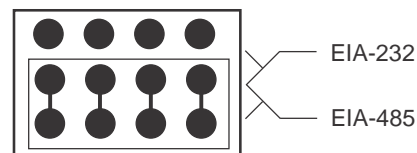

Figure 12. Port 2 Configuration Jumper Settings
4. Plug EIA-485/232 configuration jumper to EIA-485 position as shown in Figure 12.